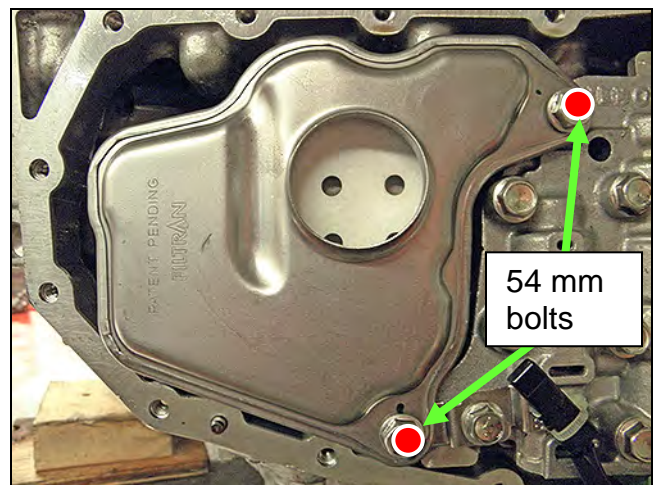

Figure 31
7. Install the new oil strainer with its new O-ring seal with two (2) bolts (Figure 31).